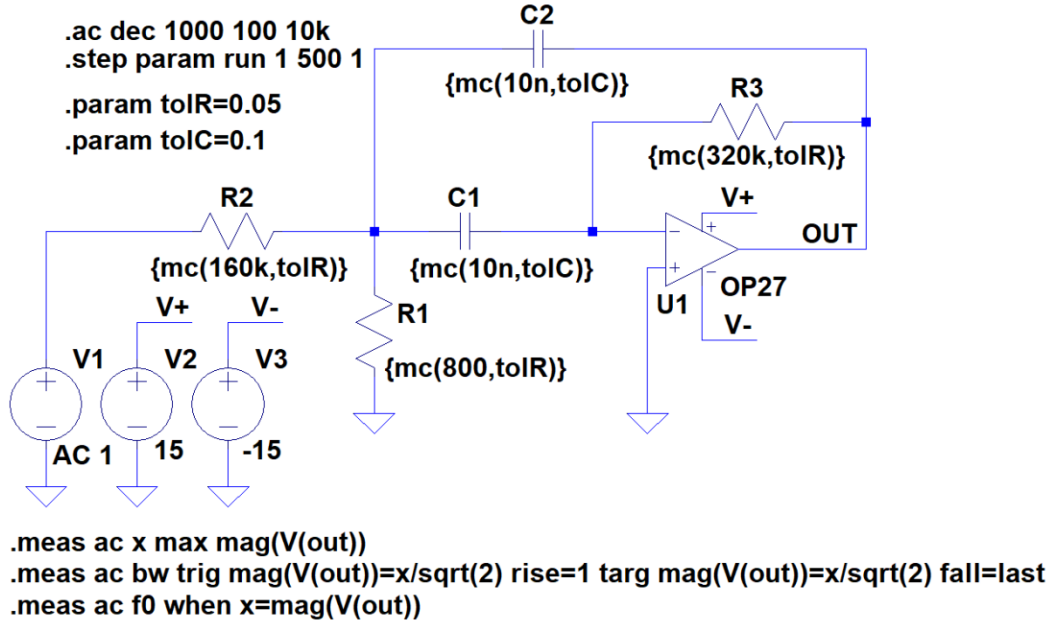

Fig. 11. Diagram of the tested filter system for MC analysis.
1. Perform MC analyzes (Fig. 11), assuming capacitors tolerance of 10% and 5% resistors.